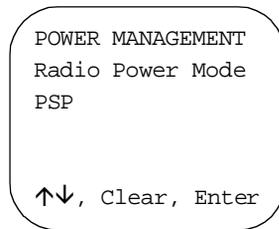

Figure E-10. Power Management Screen
9. Select **Power Management** from the main configuration menu. The *Power Management* screen (Figure E-10) is displayed.